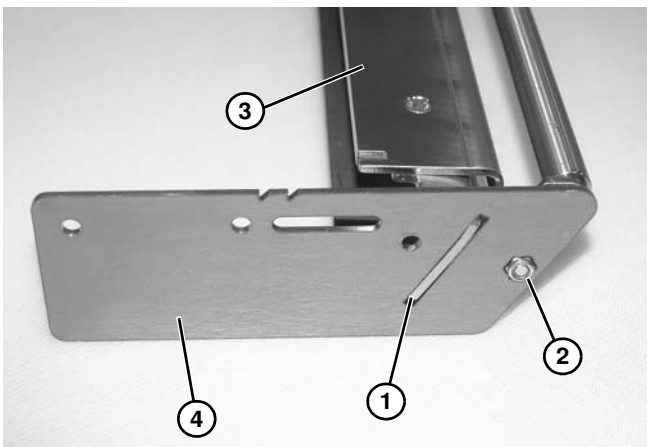

Figure 83
During reassembly, make certain that the plate (**Figure 83, item 1**) is and nut (**Figure 83, item 2**) on nose bar tail (**Figure 83, item 3**) is inserted into the slot and hole in side plate (**Figure 83, item 4**).